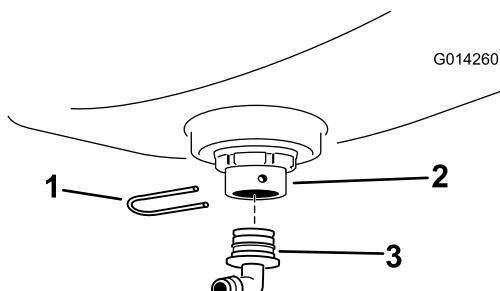

Figure 5
4. Install a 90-degree fitting to the bulkhead, and secure it with a fork pin (Figure 5).